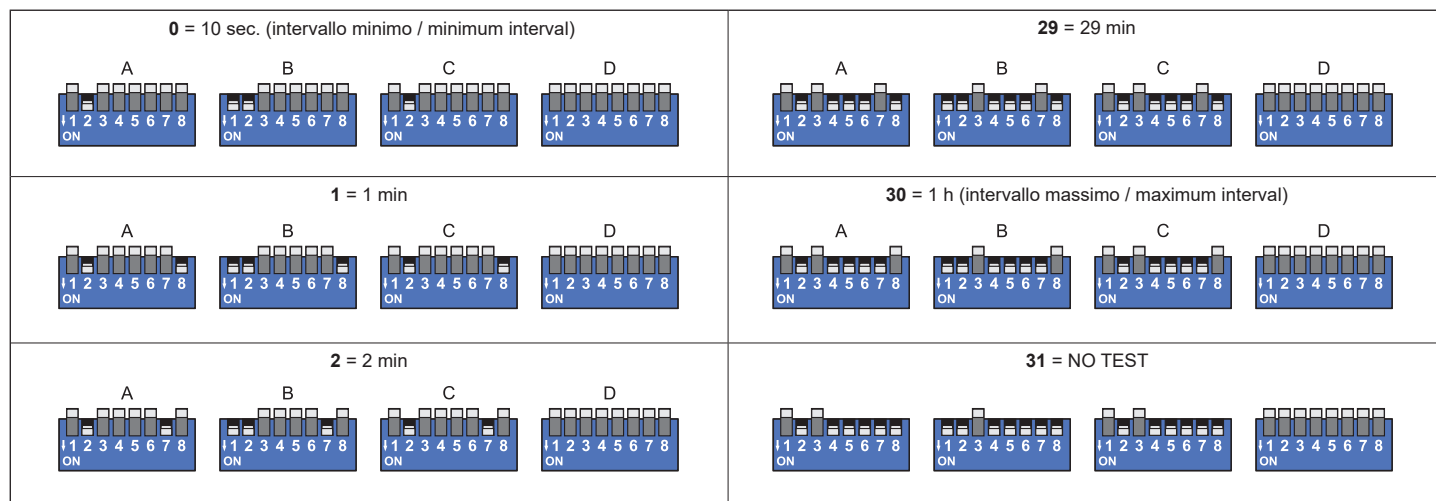

Fig. 5.1.4
3. Return lever 1 and then lever 2 to the **OFF** position. The LED will extinguish to show that the setting has been correctly acquired. Figure 5.1.4 shows examples referred to setting the most commonly used intervals.